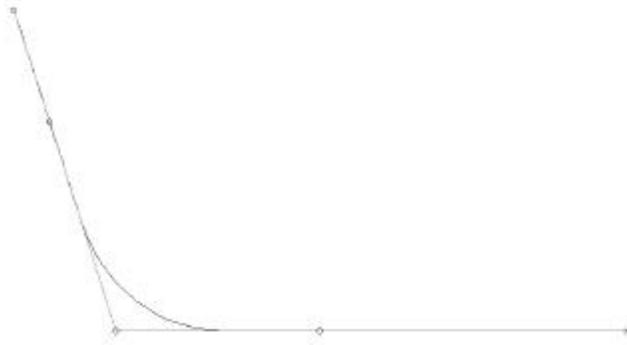

Figure 5-3: *Midship Curve, Front View*
- Repeat steps 7 and 8 until the shape of the curve *Midship* matches the curve *Midship Section*. (See figure 5-3.)